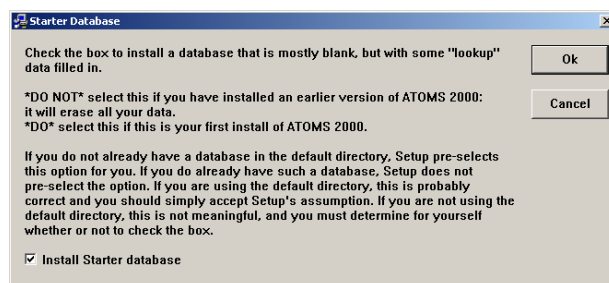

Figure 3-9. Starter Database Installation
9) The Starter Database window appears (Figure 3-9). If this is the first time installing ATOMS 2000, be sure this box is checked on (☒); if previous ATOMS 2000 data files are "found" by the installation program, this box will be checked off (☐). Click **OK**.
- 4) If the original installation directory, typically *c:\a2k_install*, still exists and contains the *ATOMS_install.exe* file, **double-click** it to start the installation process. Follow the procedure in Paragraph 3.3.1, Installing ATOMS 2000. When the Starter Database window appears (Figure 3-9), be sure the check box is unchecked (☐.